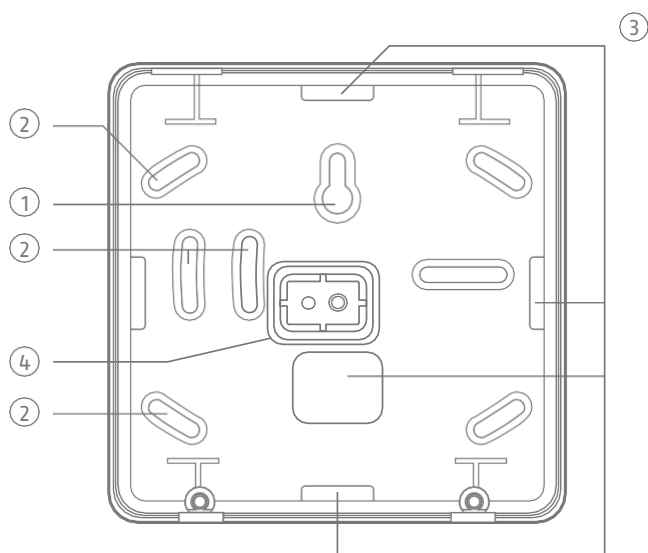

Figure 3: Rear panel
Figure 3 shows the rear housing and the mounting holes.
- a) Press the back against the wall and mark the position of the hole in the tamper lock (see Figure 3).